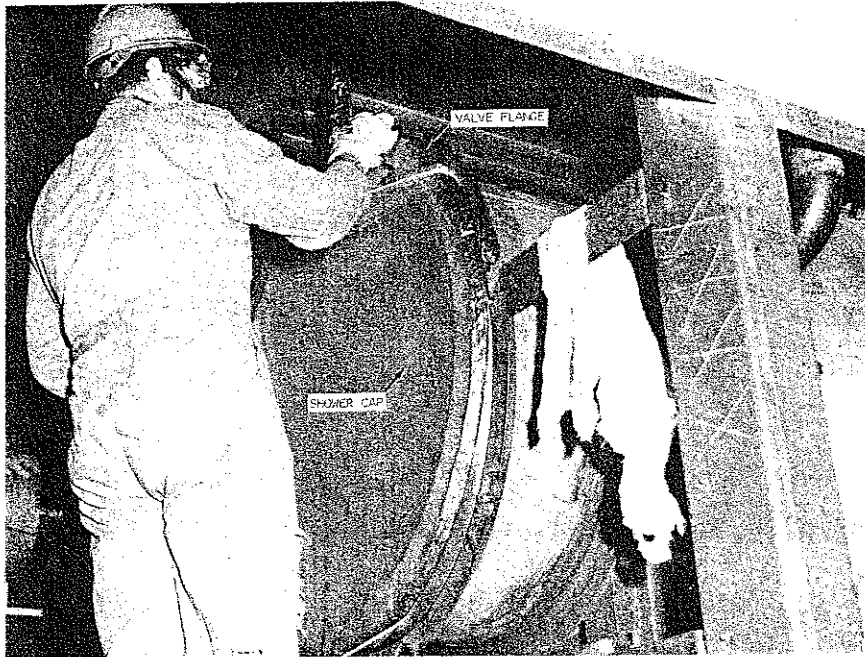

FIG. 13 CLEANING OPERATION
1. Decontaminate PG flanges (Chemical Operations personnel-Fig. 13).